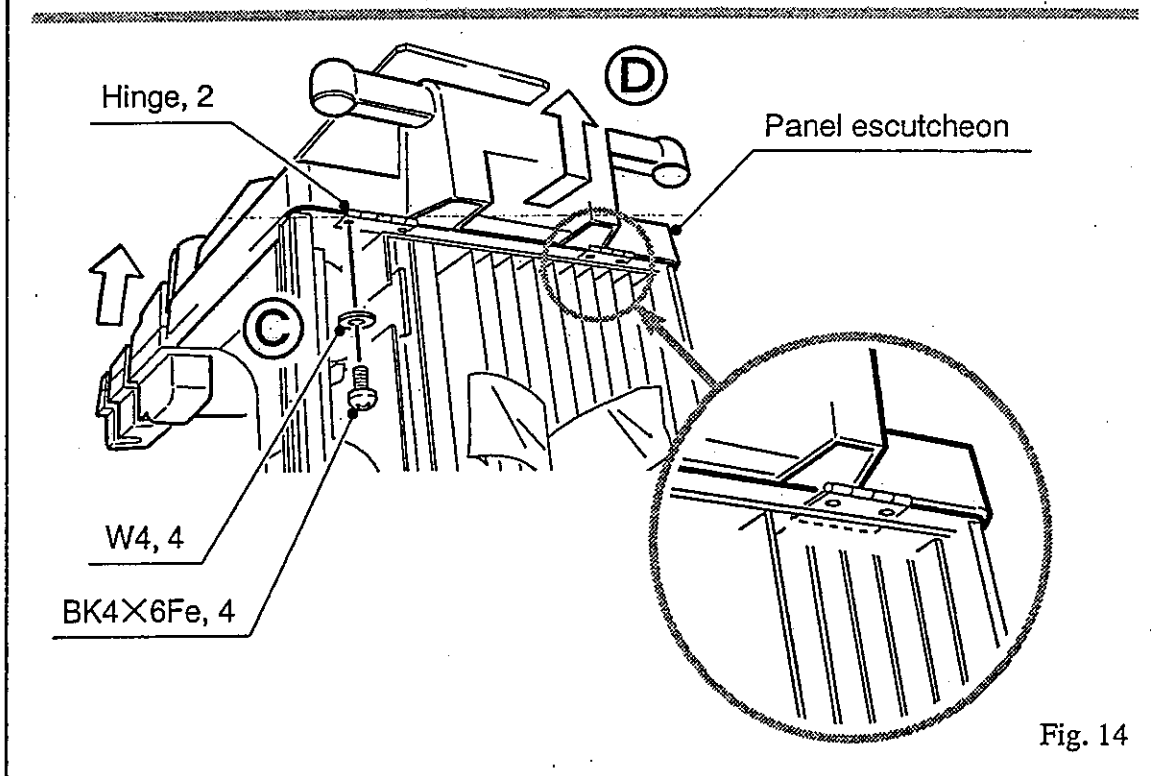

Fig. 14
- (15) Unfasten 4 screws and remove 4 washers, both on hinge in the rear of panel escutcheon. (C in fig. 14)
- (16) Slide panel escutcheon rearward while keeping it slightly raised in front. And remove. (D in fig. 14)